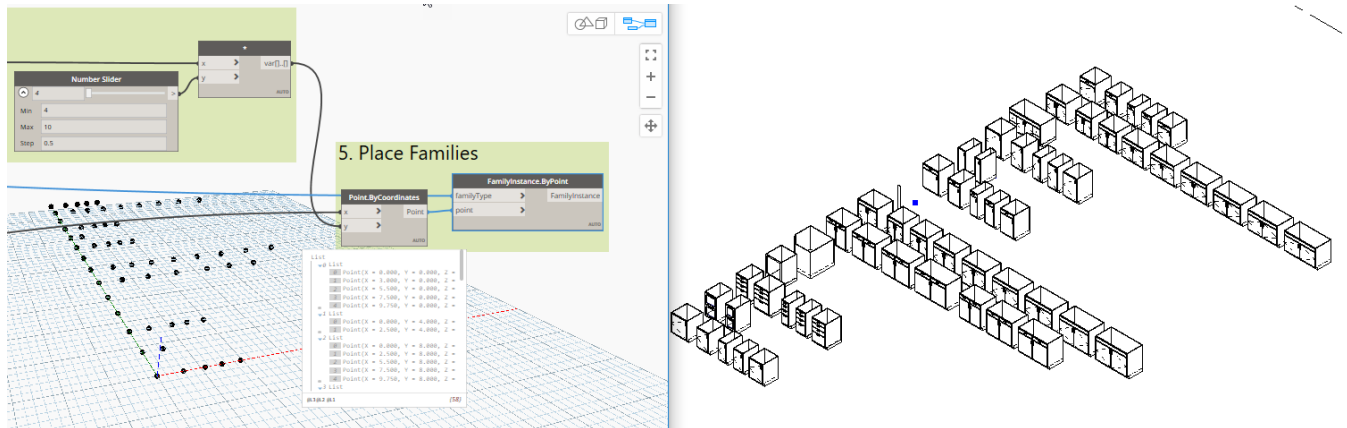

FIGURE 58
45. Position the Dynamo window such that you can see the Revit window in the background and then run the graph (see Figure 58).